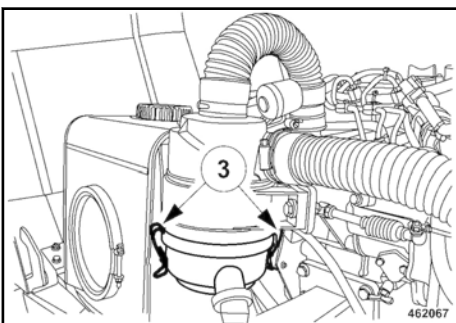

Fig. 128
Insert the air filter cartridge, attach the housing cover and fasten with fastening clamps (3) ↪ Fig. 128.